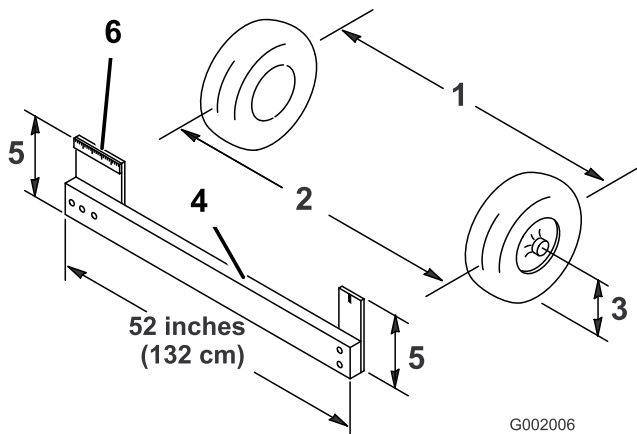

Figure 60
- Measure the distance between both of the front tires at the axle height at both the front and rear of the front tires (Figure 60). A fixture or alignment gauge is needed for the rear measurement of the front tires at axle height. Use the same fixture or alignment gauge to accurately measure the front of the front tires at axle height (Figure 60).